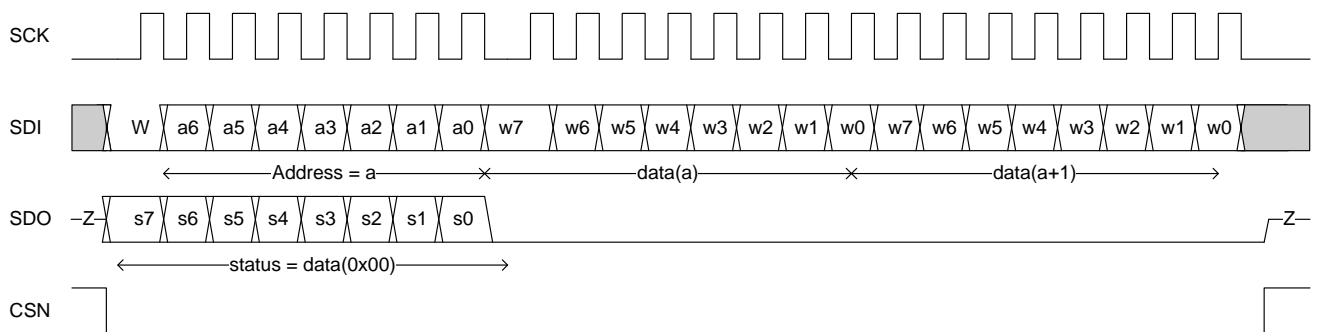

Figure 3.7 Multi-write SPI transaction
- Write one or more consecutive register(s) and read the status byte (register 0x00) (see Figure 3.7 below). This action needs at least 2 bytes (1 for address and write order, and 1 byte for writing at the desired address).